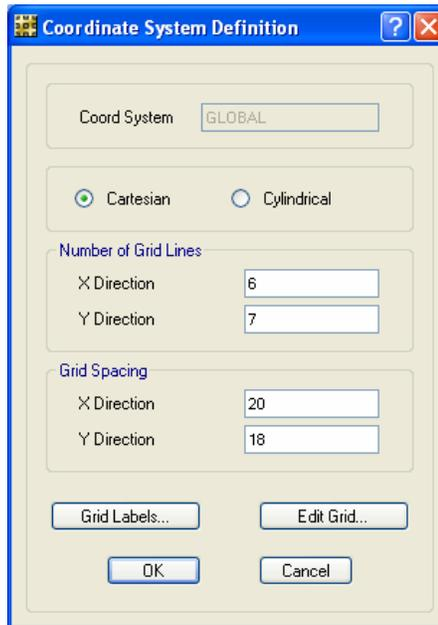

Figure 4 Coordinate System Definition form
- C. In the Initial Model area, click the **Grid Only** button to display the Coordinate System Definition form shown in Figure 4. This form is used to specify the number of grids and spacing in each direction. It is important that the grid be defined such as to accurately represent
- E. As shown in Figure 4, set the Number of Grid Lines in the X Direction to **6** and in the Y Direction to **7**. Set the Spacing in the X Direction to **20** feet and in the Y Direction to **18** feet.